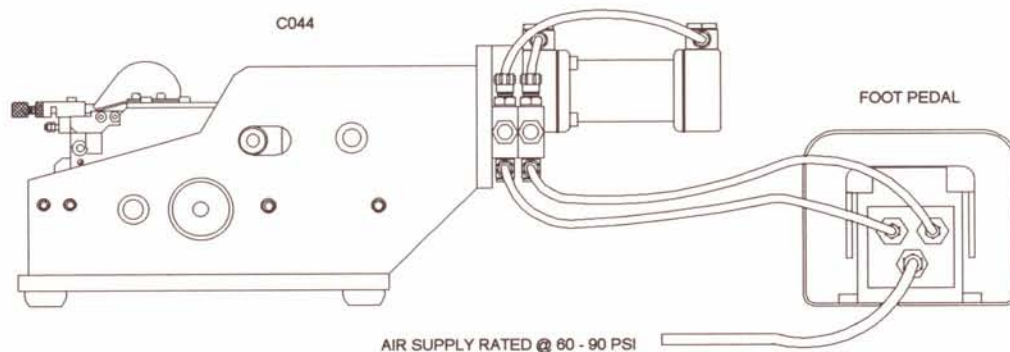

Figure 1
2. Connect the three air hoses provided from the foot pedal to the machine as shown in figure 1.